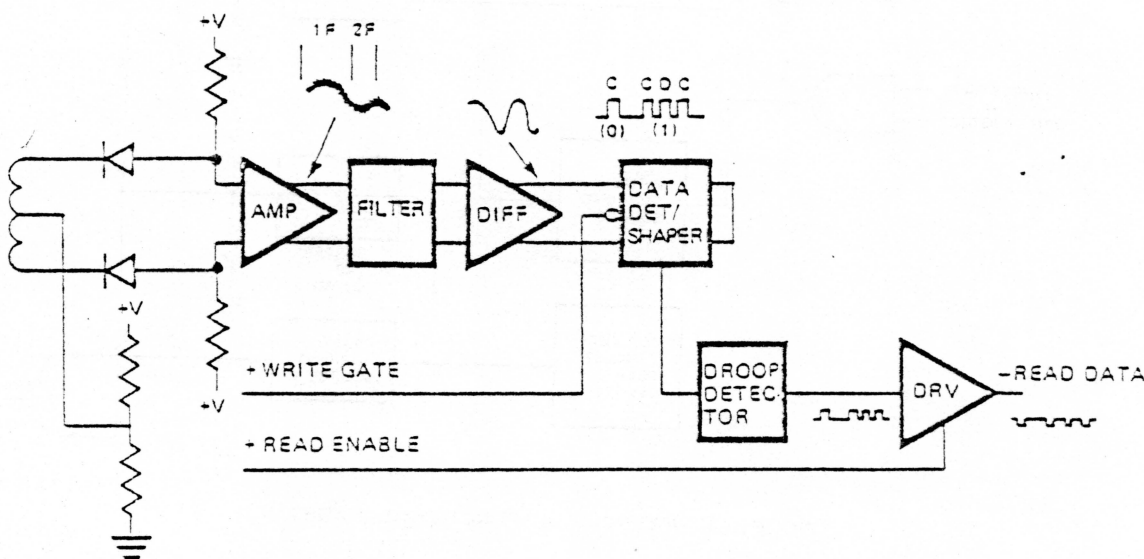

FIGURE 25. READ CIRCUIT FUNCTIONAL DIAGRAM
## 10.0 READ CIRCUIT OPERATION (FIGURE 25)
10.2 Since a pulse occurs at least once every  $8 \mu s$  and when data bits are present once every  $4 \mu s$ , the frequency of the read data varies. The read signal amplitude decreases as the frequency increases. Note the signals on Figure 25. The differential amplifier will amplify the read signals to even levels and make square waves out of the read signals (sine waves).